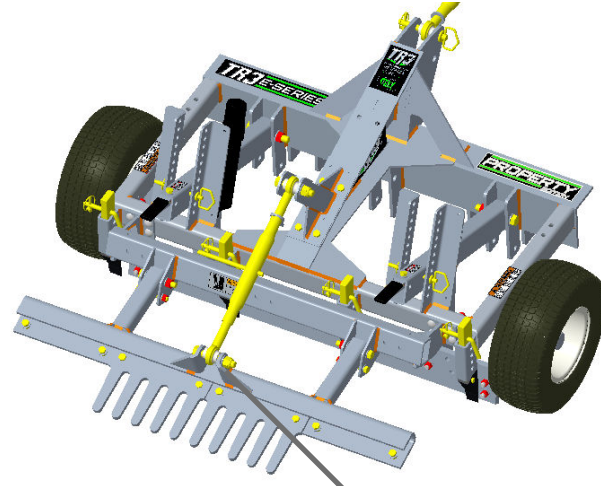
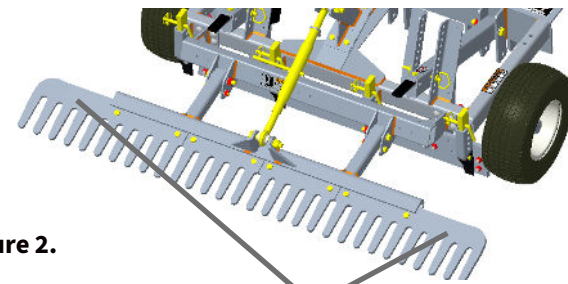

Figure 1.
Figure 2.
1. Remove bolt (1-1/8" Hex) that secures the Toplink to the Rake attachment from Rake attachment mounting bracket. Position Toplink end to line up with Rake attachment brackets holes and slide bolt thru brackets and Toplink and tighten nut (see **Figure 1**).
2. For Units that are shipped with outer Rake sections removed (as shown in **Figure 1**), remove bolts and nuts (3/4" Hex) from Rake support bracket. Set End Rake sections on Rake support bracket and re-insert bolts and nuts and tighten (see **Figure 2**). Bent ends of Rake Sections are to be angled upwards (see **Figure 3 and 3A**).